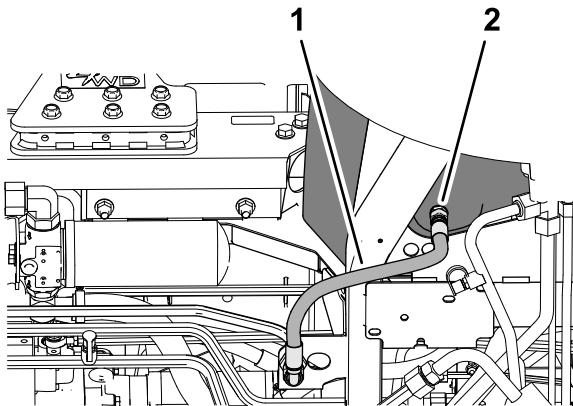

Figure 154
3. Align the drain pan under the hydraulic tank (Figure 154).